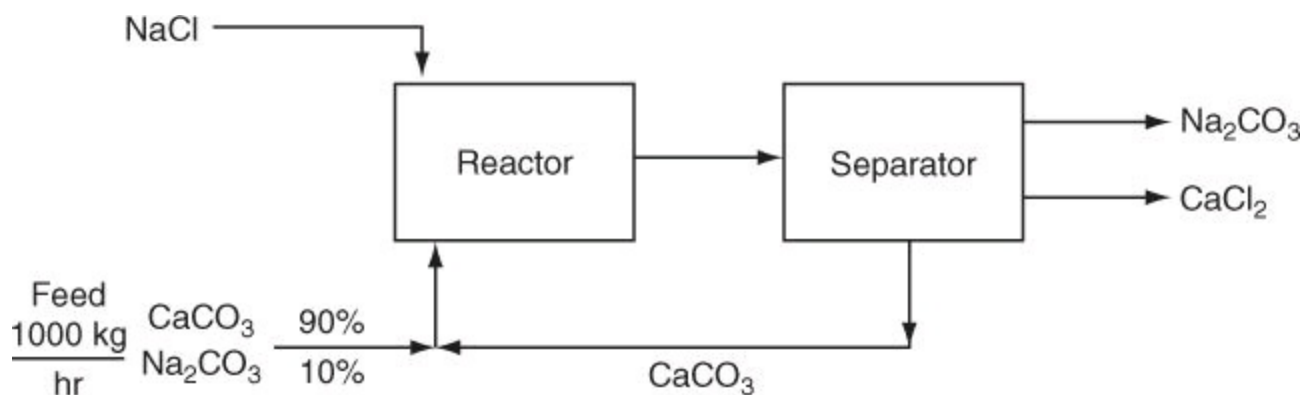

Figure P6.3.12
****6.3.12.** Examine Figure P6.3.12. NaCl and the feed solution react to form $CaCl_2$. In the reactor the conversion of $CaCO_3$ is 76% complete. Unreacted $CaCO_3$ is recycled. Calculate (a) the kilograms of Na_2CO_3 exiting the separator per 1000 kg of feed, and (b) the kilograms of $CaCO_3$ recycled per 1000 kg of feed.